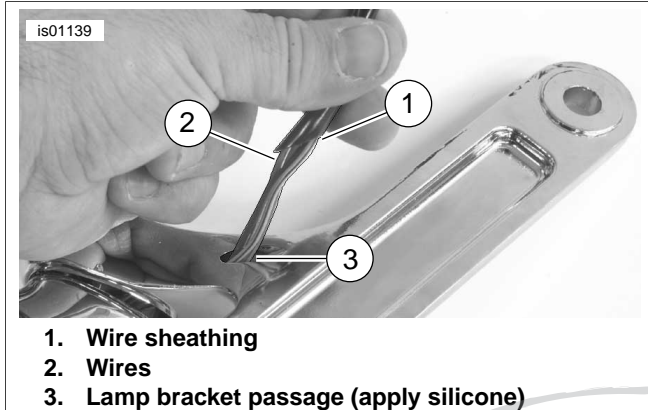

Figure 5. Install Wire Sheathing
5. See Figure 5. Install wire sheathing (1) onto wires (2). Insert a small amount of silicone into passage (3) of lamp